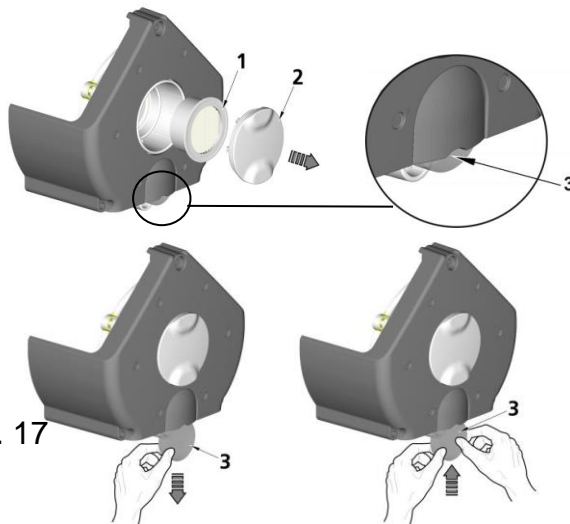

Fig. 17
18.5. Aggregate intake filter replacement (Fig. 17)